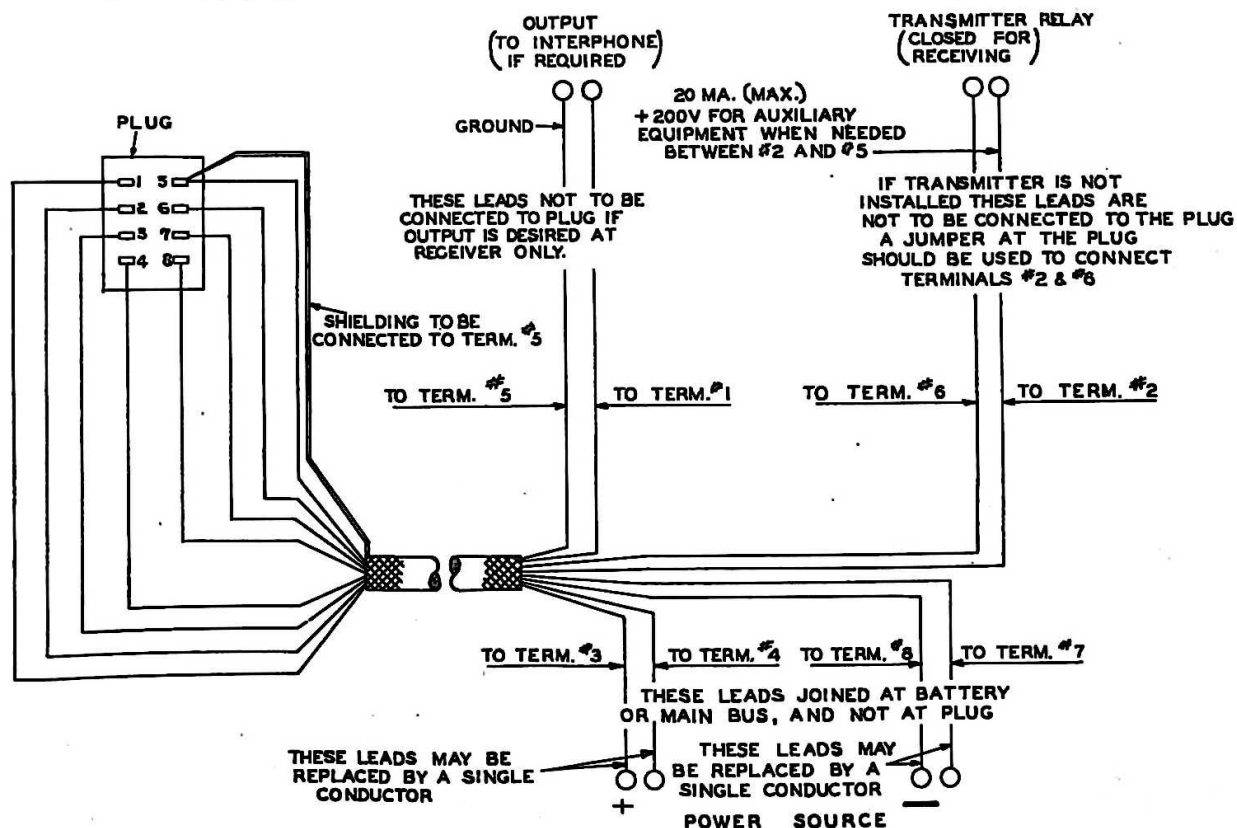

Figure 8—Plug Connections
b. POWER CONNECTIONS.—Connect the leads to the primary power source as shown in Figure 8. The parallel connected leads from plug terminals 3 and 4 may be replaced by a single conductor with a cross section equivalent to the two separate leads. Similarly, the parallel connected leads from plug terminals 7 and 8 may be replaced